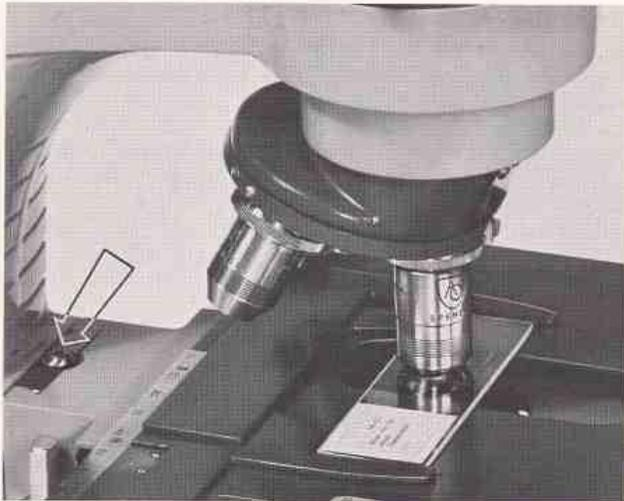

Figure 4. Autofocus Stop
The autofocus stop is pre-set at the factory. It is the stop which limits the height of the stage (see figure 4). This setting is valid for slides anywhere from 0.50 to 2.5 mm. in thickness. Because of the highly precise tolerances held in the manufacture of the objectives (affecting both parcentration and parfocality), it is possible to search the slide with 10X or 45X objectives, find the field required for study under oil
- a. Remove autofocus stop screw (figure 4).